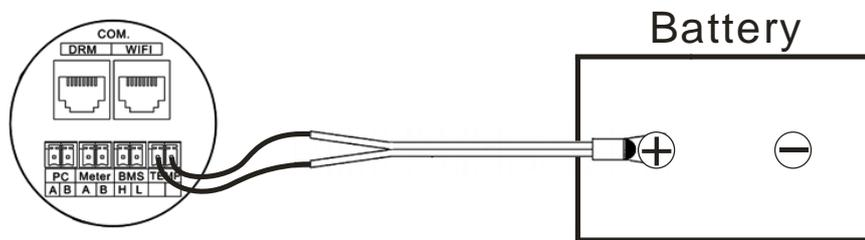

Figure4-21 RTS connection
- Step 5 Draw the wires of the remote temperature sensor (RTS) through the communication cover to connect to the TEMP terminals as shown in Figure4-21. The RTS is fixed on either the "+" or "-" pole of the lead acid battery cell located in the center of the battery bank.